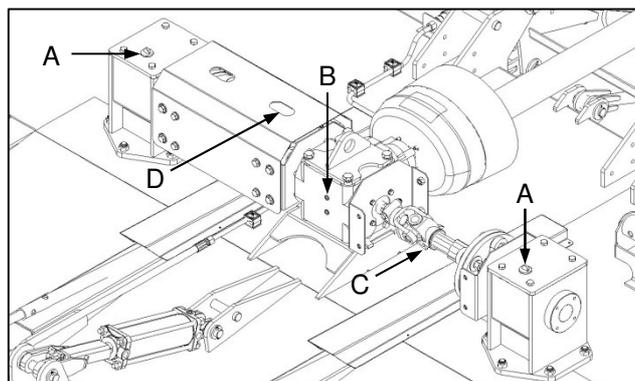

Fig. 11, (F60-300T)
- ✔ A dipstick (Fig. 11-A) is provided on each of the outboard gearboxes for this purpose. The oil level should fall within the area indicated on the dipstick.
- ✔ Elk van die buiteratkaste het 'n peilstok (Fig. 11-A) vir hierdie doel. Die olievlak moet binne die perke val wat op die peilstok aangedui word.
- ✔ The centre gearbox is equipped with oil filling ports. Remove the upper filler plug (Fig. 11-B) and add oil through the filling port so that the oil level coincides with the bottom edge of the hole.
- ✔ Intermediate shafts (Fig. 11-C, with cover removed for clarity) should have grease applied to the UV joint as well as the telescopic tubes. Note that both of these locations are accessible through apertures provided on the intermediate shaft cover (Fig. 11-D).
- ✔ Die sentrale ratkas is van olievulgate voorsien. Verwyder die boonste vullerprop (Fig. 11-B) en voeg olie by totdat die olievlak gelyk is met die onderste rand van die gat.
- ✔ Tussenasse (Fig. 11-C, getoon met omhulsel verwyder) se kruiskoppeling en teleskopiese buise moet gegries word. Let op dat albei deur openinge in die tussenas-omhulsel bereik kan word (Fig. 11-D).